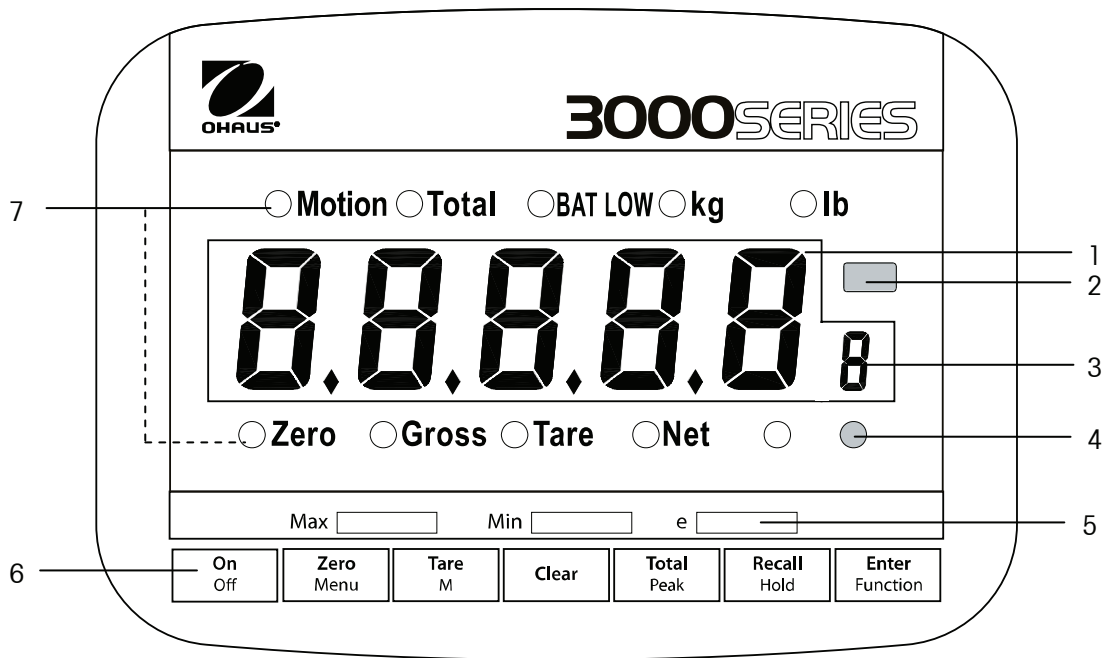

Figure 1-3. Controls and Indicators
- Charge the battery when the "Bat Low" indicator on the scale lights (see Section 1.3, Figure 1-3, item 7).